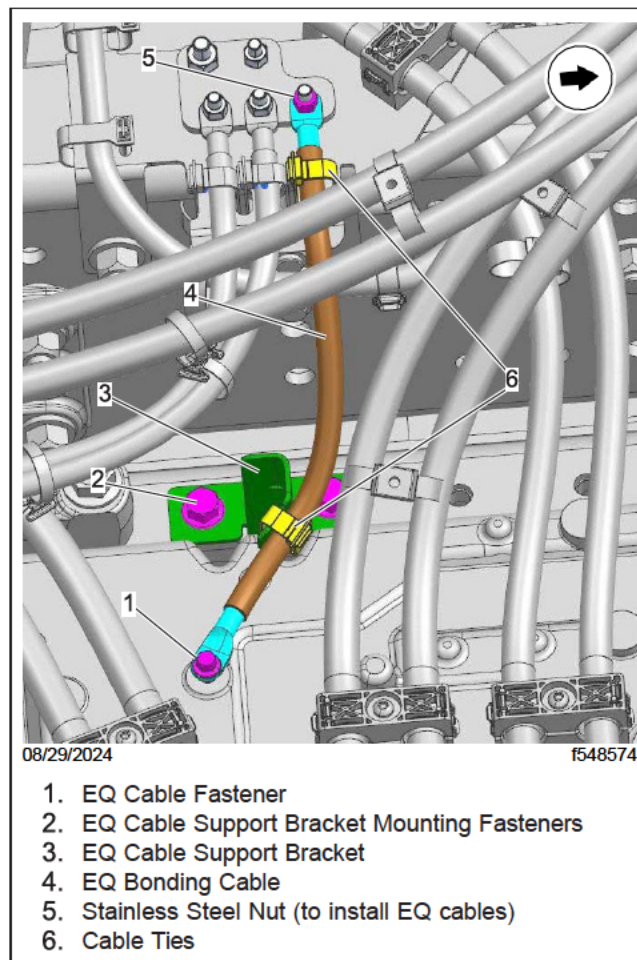
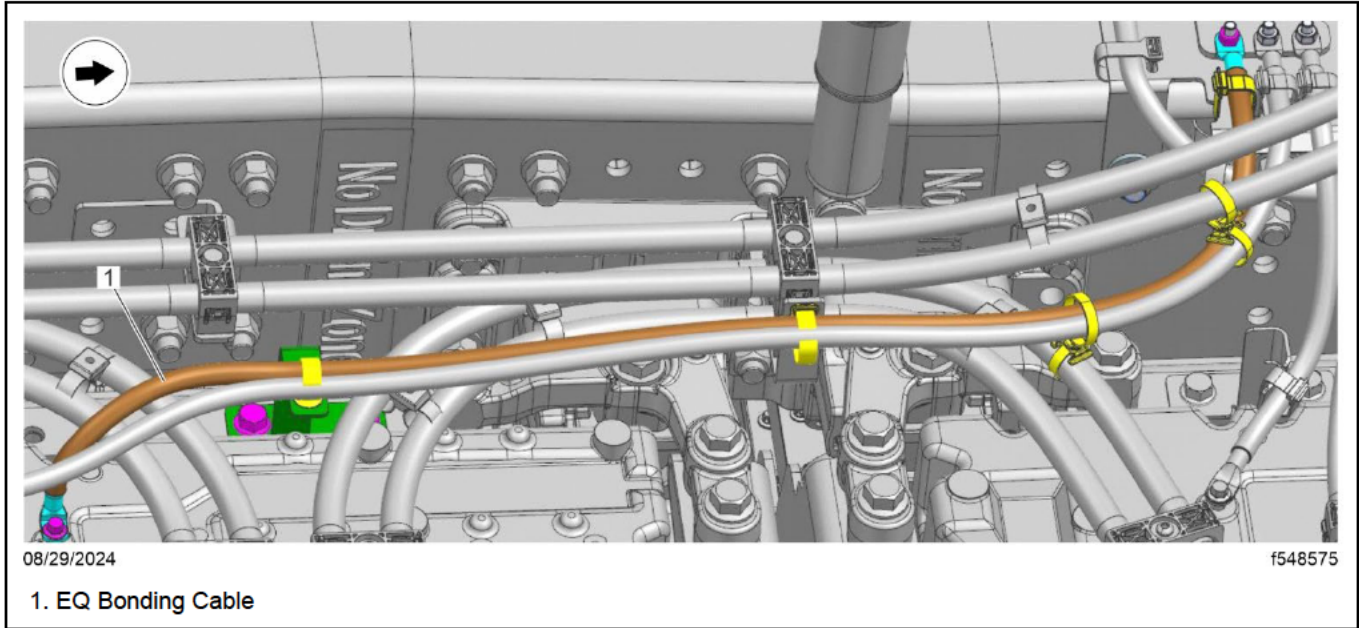
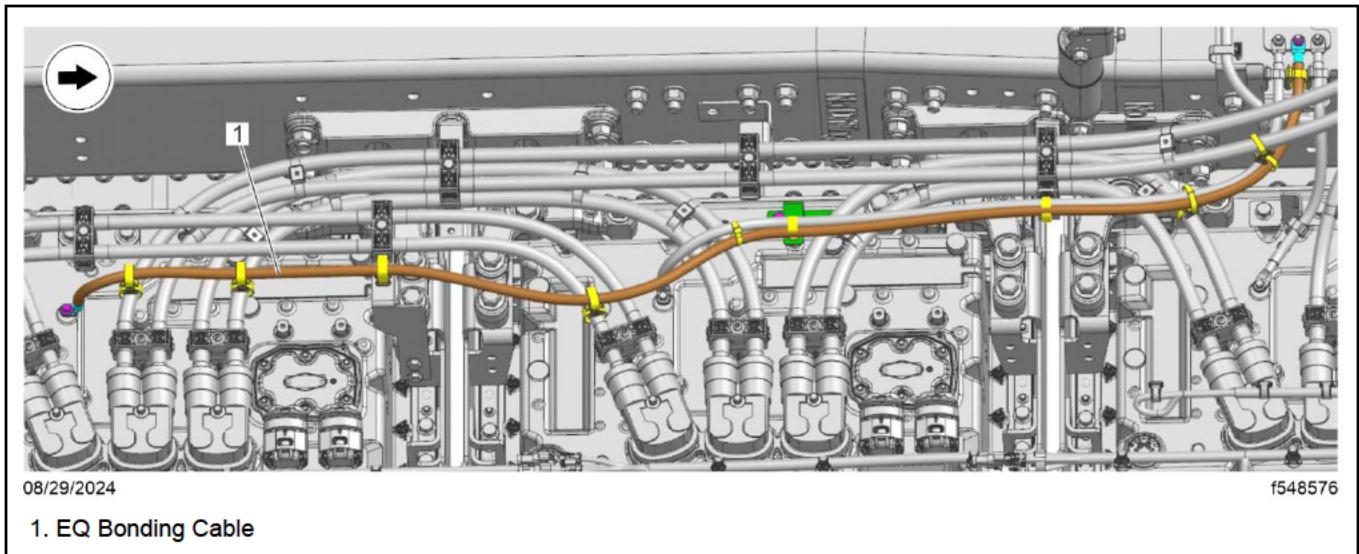
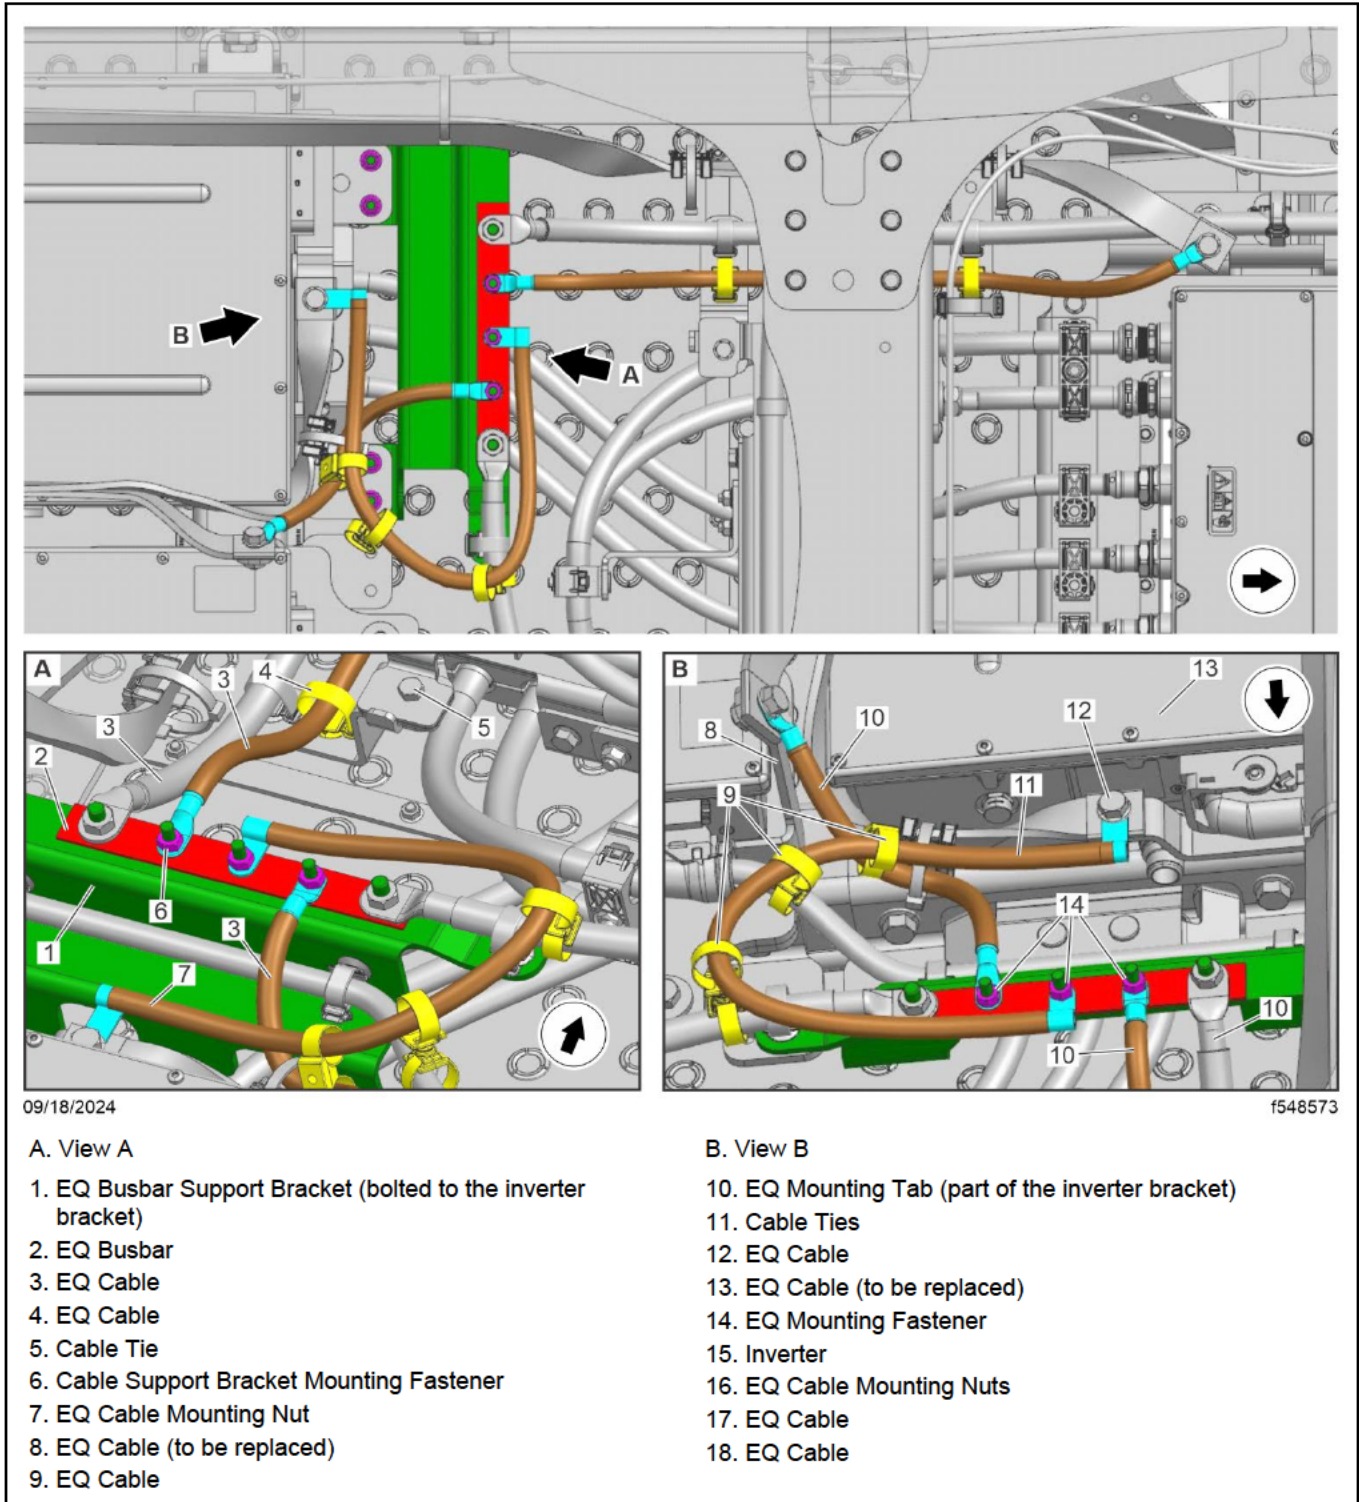

Fig. 8, Installation of New HV Cable Bracket
Fig. 9, Routing the New EQ Cable
Fig. 10, Routing the New EQ Cable
Fig. 11, Installation of the New EQ Cable
23. Install the new HV cable bracket (66-34471-000) to the high voltage battery B1. See **Fig. 8**.
24. Route the new EQ cables (A66-26293-017, A66-26292-043, and A66-26292-075) to each HV battery, and loosely install the fasteners to keep the cables in place. See **Fig. 8**, **Fig. 9**, and **Fig. 10**.
25. Install the new EQ cable (A66-34437-022) with the new routing. See Fig. 11.
27. Use cable ties to secure the ground cables as shown in Fig. 8, Fig. 9, Fig. 10, and Fig. 11. Use cable ties to secure the LV harness and other ground cables attached to the new EQ ground bracket.
28. Tighten the EQ cable large stainless steel (SS) nut 26 lbf·ft (35 N·m).